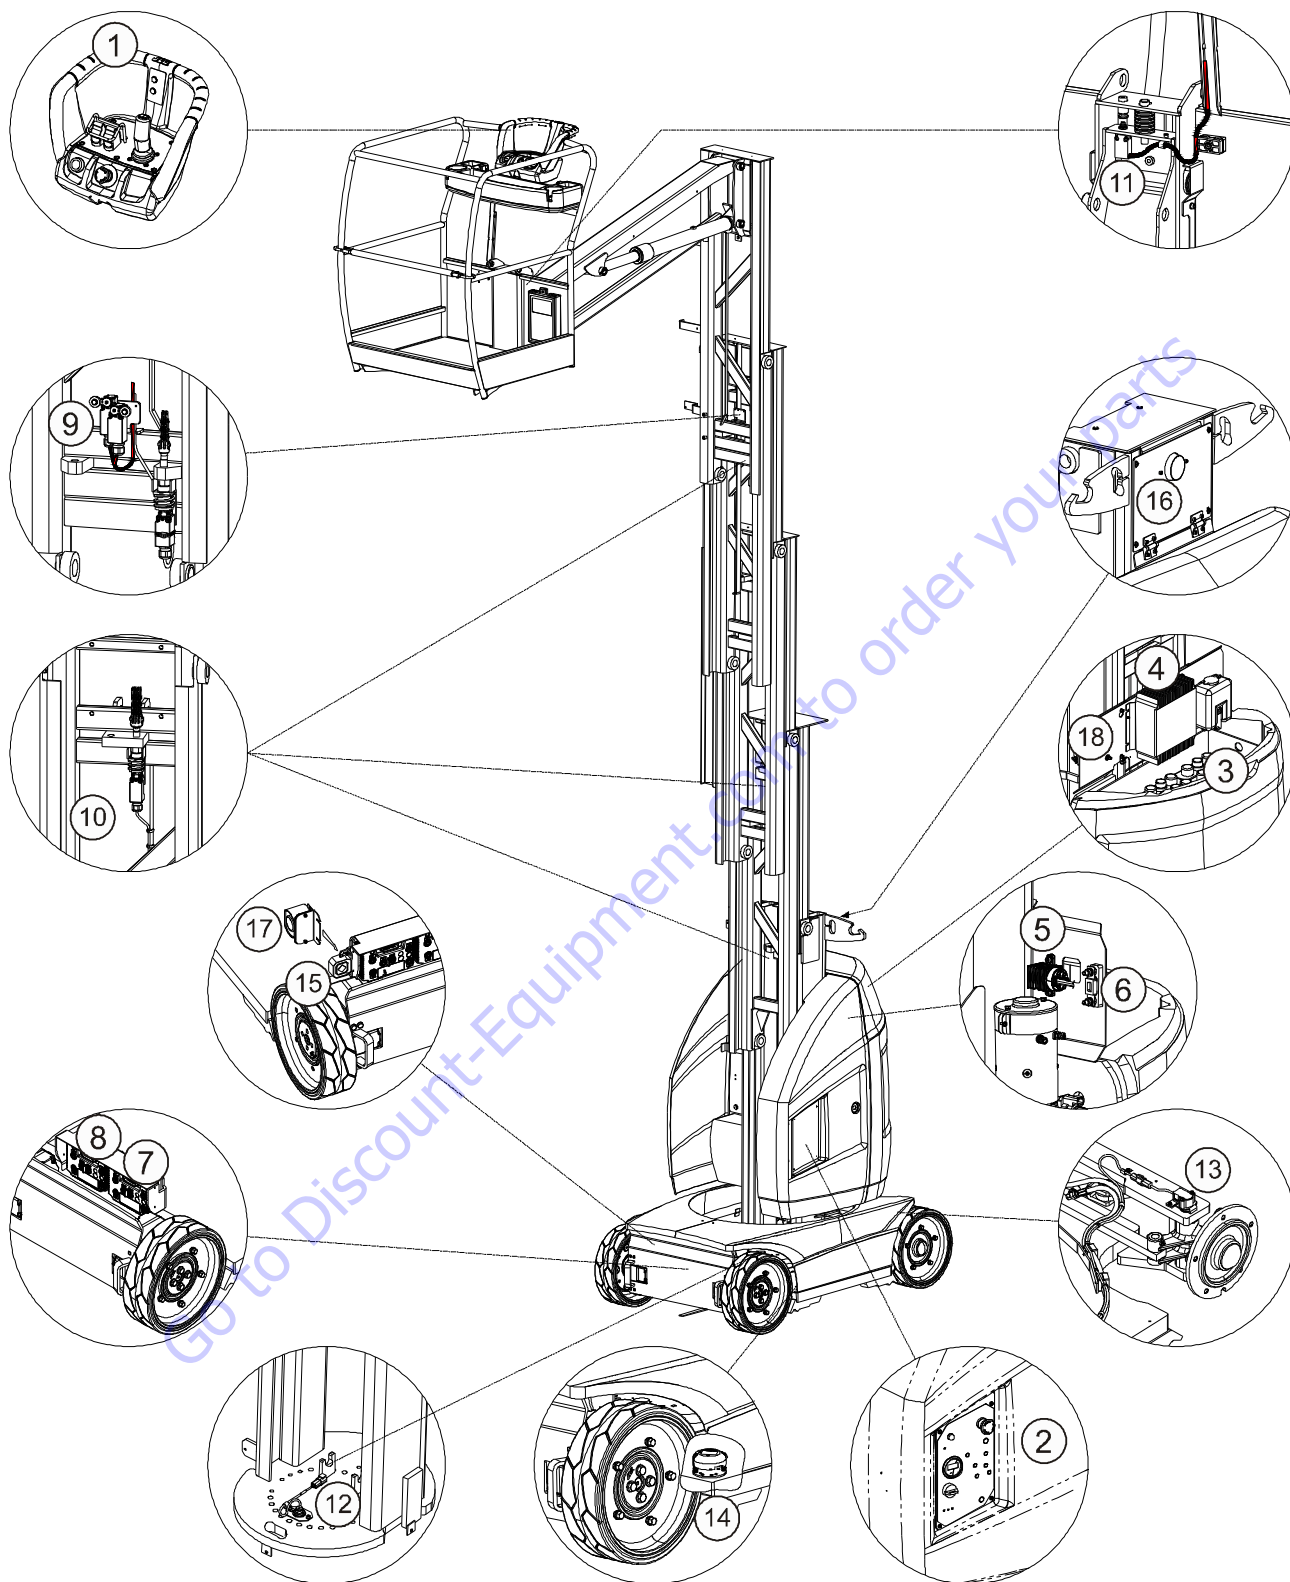

Figure 8-2. Control Components Location - T10E/T26E
- Disconnect and clean the filter (5) (See Figure 8-2) by reversing the water flow from the normal direction.